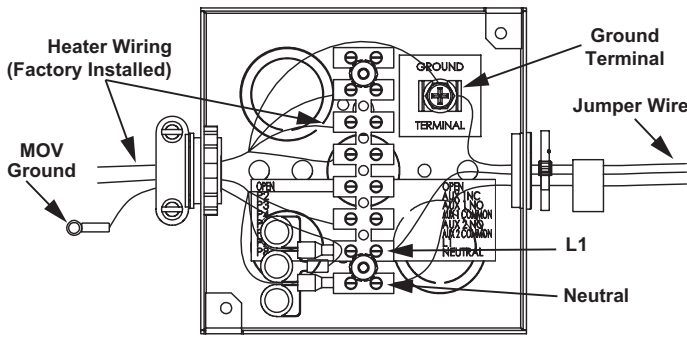

Figure 49
The 120 VAC hot wire from the power supply must connect to the black jumper wire or the "L1" terminal block location in the junction box and the 120 VAC neutral wire must connect to the white jumper wire or the "Neutral" terminal block location in the junction box for correct polarity. See Figure 49.
5. Connect the ground wire from the power supply to the green jumper wire or the ground terminal location inside of the junction box located on top of the water heater. If the green jumper wire is used, make the connection inside of the junction box with a properly sized wire nut and wrap electrical tape around the wire nut and wire end. See junction box Figure 49 and wiring diagram Figure 58 on page 66.